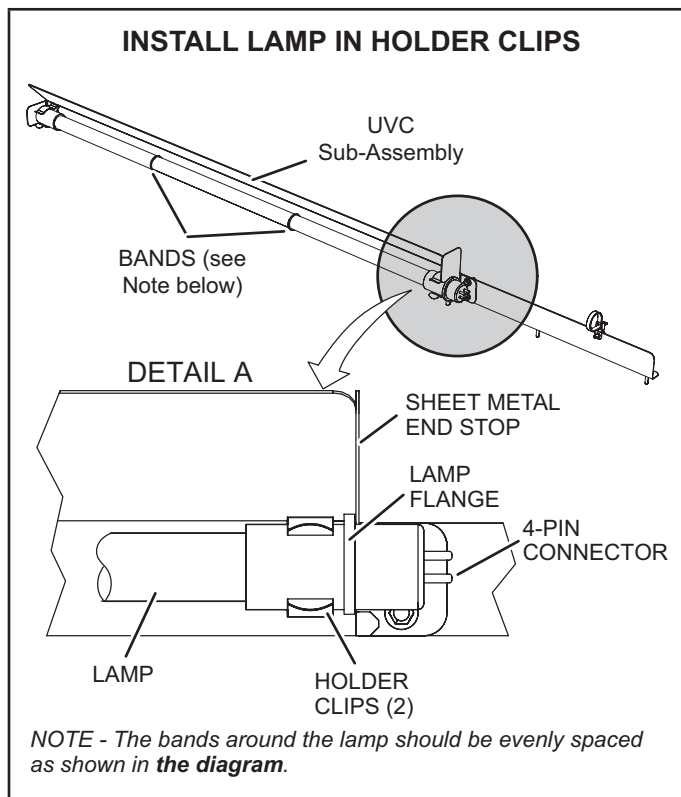

FIGURE 43
- 7 - Wear cotton gloves or use a cotton cloth when handling the new lamp. Place the new lamp in the holder clips of the UVC assembly. Verify that the lamp flange at the connector end is sandwiched between the lamp holder clip and the sheet-metal end stop (see FIGURE 43).